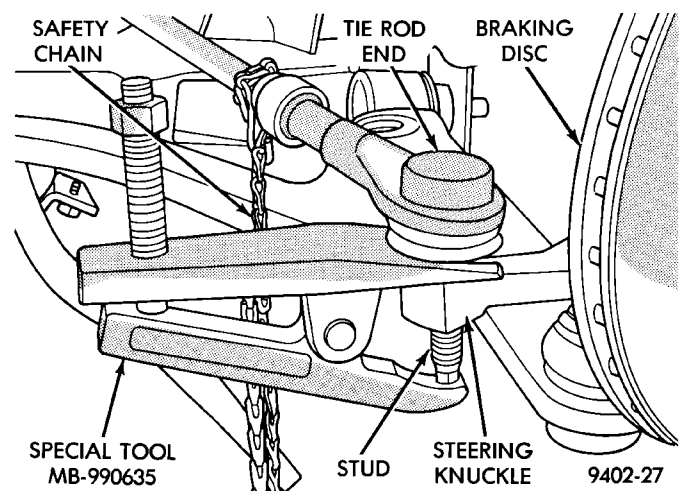

Fig. 7 Tie Rod End Removal From Steering Knuckle
(6) Remove both tie rod end studs, from the steering knuckles, using Remover, Special Tool MB-990635 (Fig. 7).